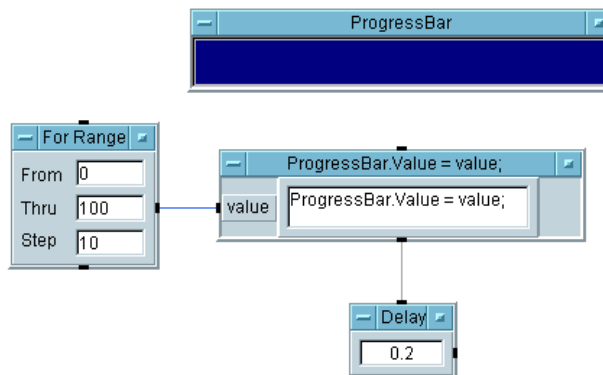

Figure 8-26. Using the ActiveX Control “ProgressBar”
5. To slow down program execution so that you can see the ProgressBar updating, select Flow \Rightarrow Delay and place the object to the right of the For Range object. Set it to .2. Connect the For Range sequence output pin to the Delay object sequence input pin, as shown in Figure 8-26, and run the program.